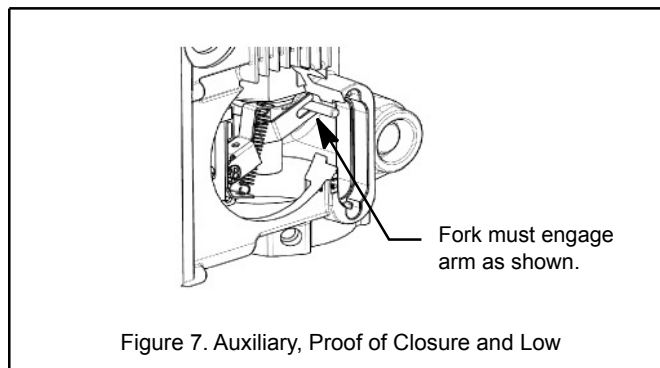

Figure 7. Auxiliary, Proof of Closure and Low
Auxiliary Switch Replacement(Refer to Figure 7)
4. Install new auxiliary switch in the actuator making sure that the fork of the switch actuation lever engages the indicator arm as shown in Figure 7.
Proof of Closure Switch Replacement(Refer to Figure 7)
Low Fire Switch Replacement(Refer to Figure 7)